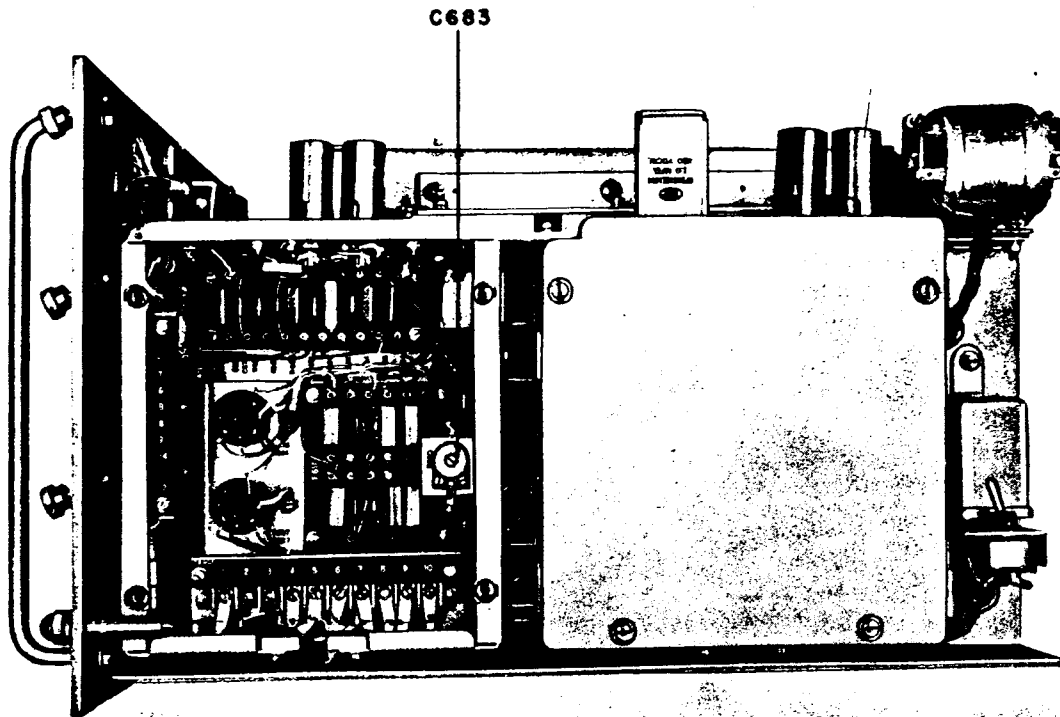

Figure 6-7. Electrical Frequency Control C-2861/WRT-1, Right Side View, Electrical Adjustments
Step 3. Refer to figure 6-7, and adjust capacitor C683 for a maximum indication on Multimeter AN/USM-34 Series (or equivalent).
(1) TEST EQUIPMENT AND SPECIAL TOOLS.